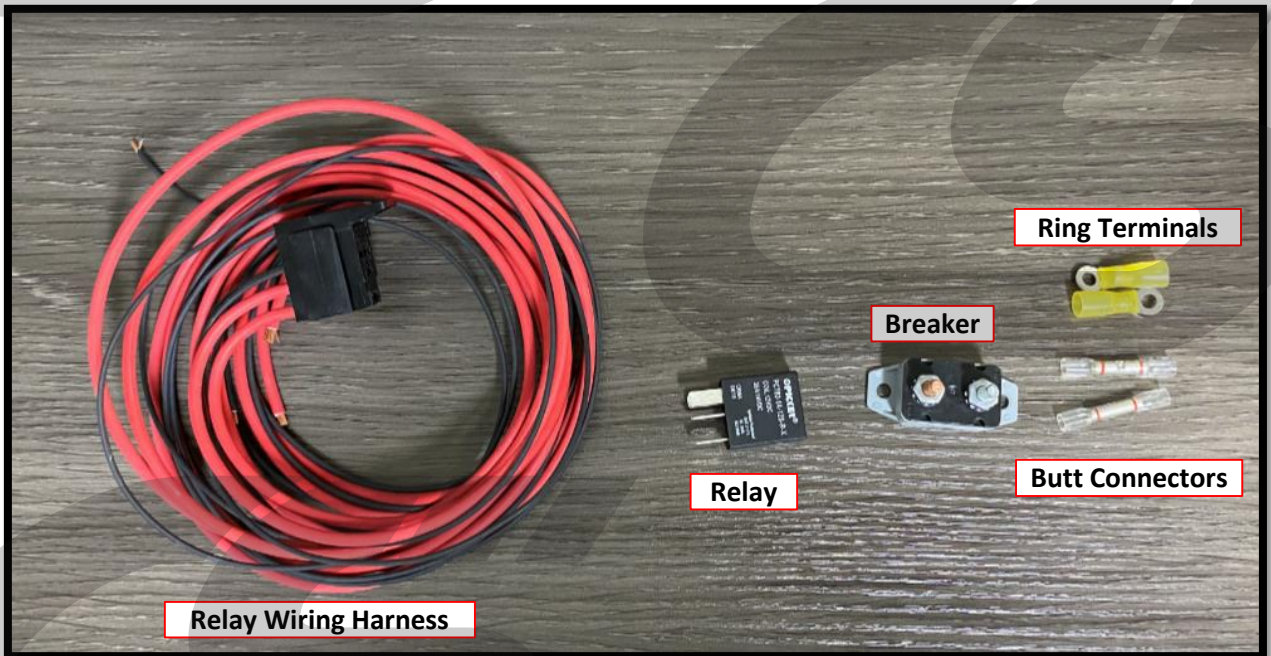

Figure 15a
- a) **Begin by opening the AEM relay kit.** Each kit will come with the components shown in **Figure 15a**. We have labeled them for reference in further steps.